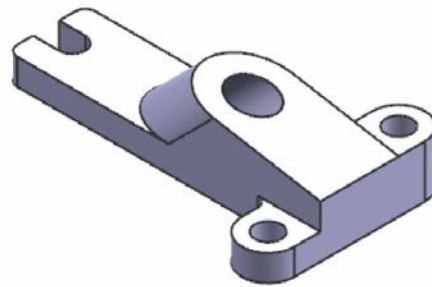

Figure 13-107 The resultant model
3. Enter 5 in the **Distance** edit box of the **Transform** rollout and choose the **OK** button from the dialog box to apply the changes. Next, exit the dialog box. The resultant model is shown in Figure 13-107.